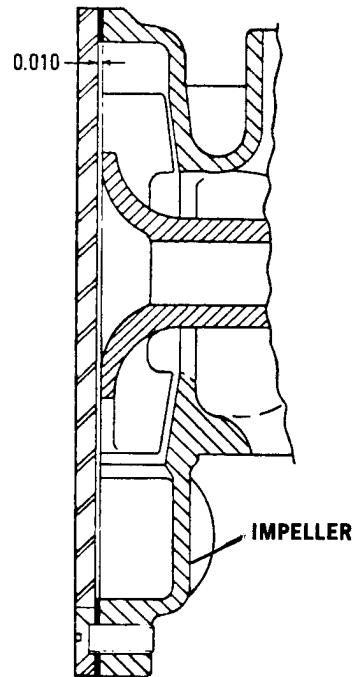

Figure 3-10. Water Pump Impeller Installation Dimension
b. Coat seal surface of the shaft with grease and press shaft and bearing (5) into body. Press only on outer bearing race and not on end of the shaft.
c. Install retaining ring (6), and support pump shaft on outer shaft end. Press impeller (4) onto shaft. There must be 0.010-inch clearance between impeller and a straightedge placed across rear face of pump body. See figure 3-10.